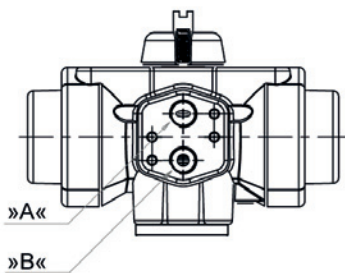

Fig. 7 Connect pneumatics
- ▶ Connect compressed air lines to the pneumatic drive (→ Fig. 7 Connect pneumatics, Page 9).